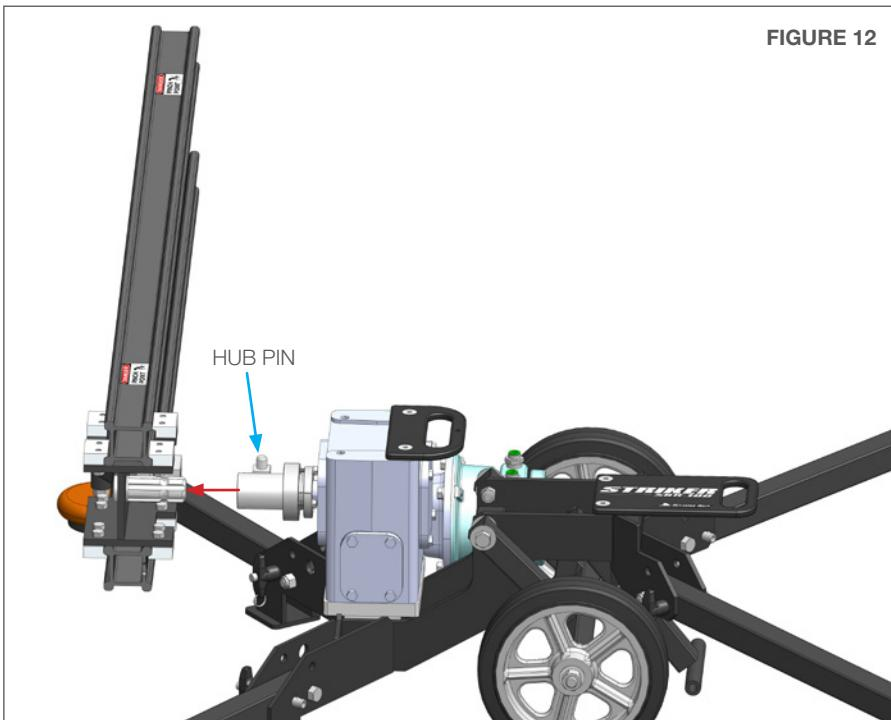

FIGURE 12
12. Slide the Vertical Rail Assembly off the Spline by depressing the Hub Pin on the Spline coupling. (**Figure 12**)